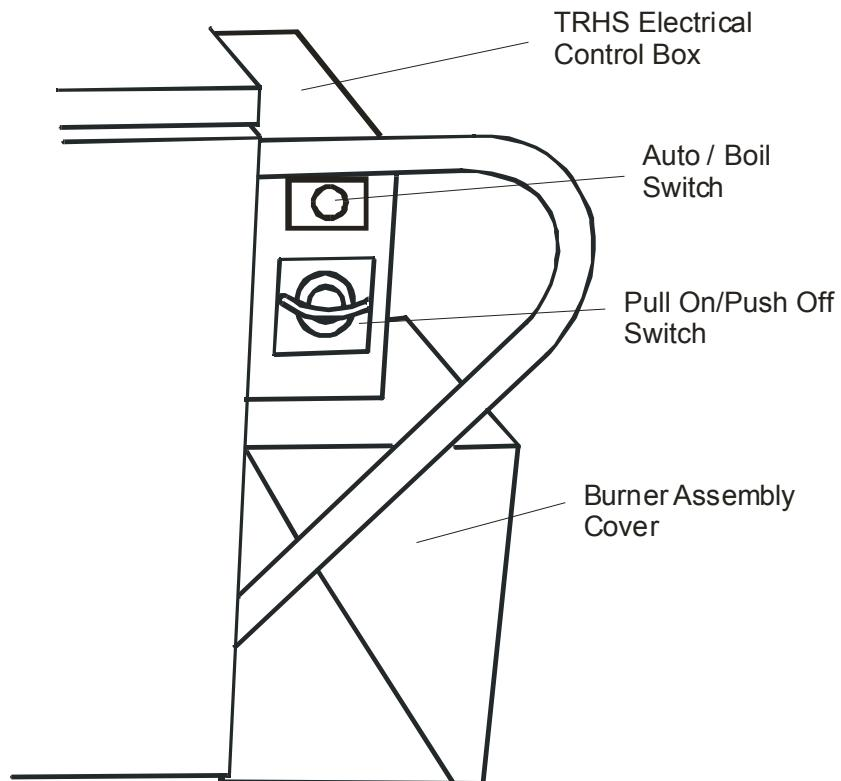

Figure 1-8. TRH Electrical Control Box
d. TRH Electrical Control Box. Table 1-5 contains pertinent power data; figure 1-8 depicts the red pull-on/push-off switch and the auto/boil switch on the TRH electrical control box. The stainless steel, weatherproof, TRH electrical control box houses the external, red, pull-on/push-off switch, which is the primary operating control for the TRH. The TRH electrical control box also contains the auto/boil switch, Amphenol plug, circuit breaker, and internal safety controls (thermodisc, low water sensor, and mercury tilt switch).